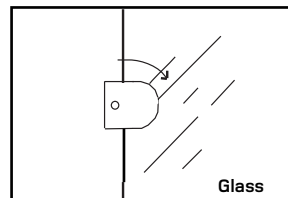

Fig. 2.
2. Turn the two securing brackets back to their original position to retain the glass and tighten the screws (Fig. 2.)